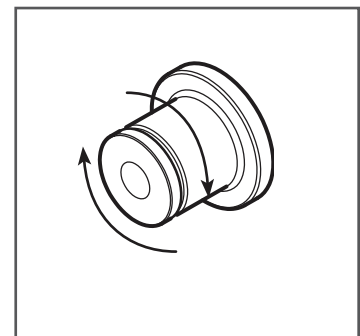

Figure 3
3. Reduce the length of last two spacers by rotating clockwise about two turns (Figure 3).